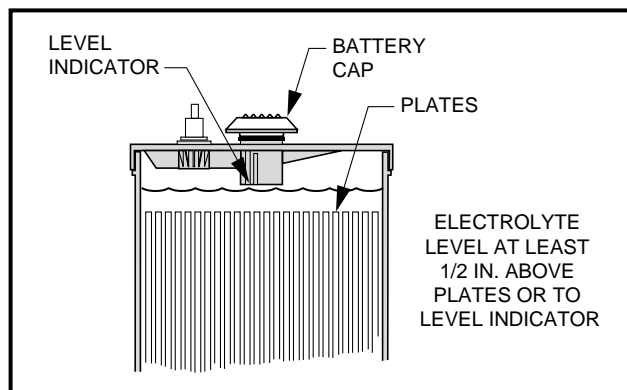

Figure 12 Electrolyte Level in Batteries
- The electrolyte level in the batteries should be checked weekly (**see Figure 12, Page 20, for proper level**). Add water only after charging unless the electrolyte level is below the top of the plates. In this case, add just enough water to cover the plates, charge and then check the level again. Never charge batteries if plates are exposed above electrolyte level. For best battery life, add only distilled water. **See following NOTE.**